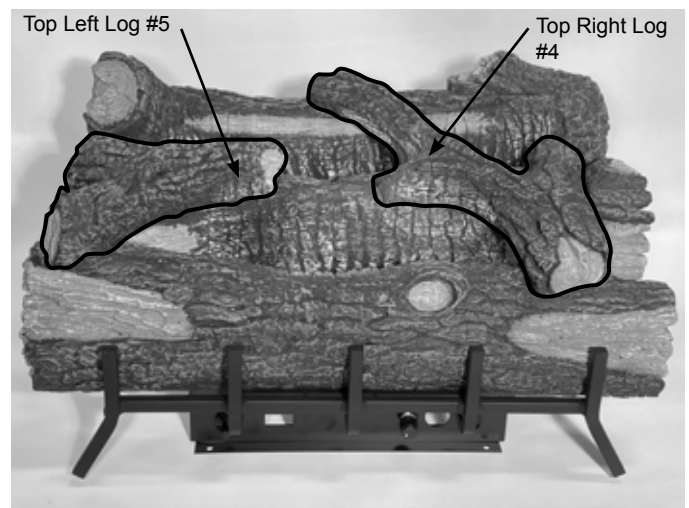

Figure 6.4 - Place Top Right and Left Logs
4. Place Top Right Log (#4) in bottom log cutouts. Figure 6.4
5. Rest Top Left Log (#5) in front and middle log cutouts. Figure 6.4